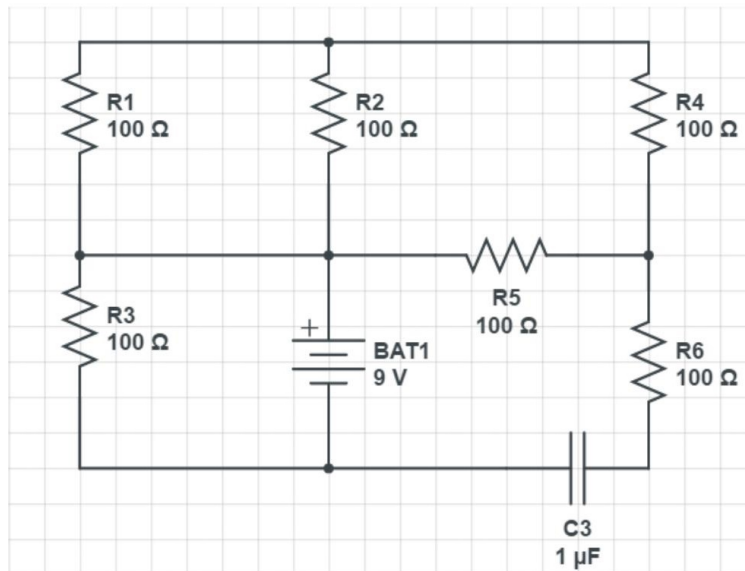

Figure 4.6: Effect of a fully charged capacitor on the circuit.
13. Answer the following in the results section of your log book. Your draft calculations can be shown in the “General Notes” section of the log book. In the circuit of Fig. 4.6, how will the fully charged capacitor affect the current and potential in R6? Answer this in your log book.